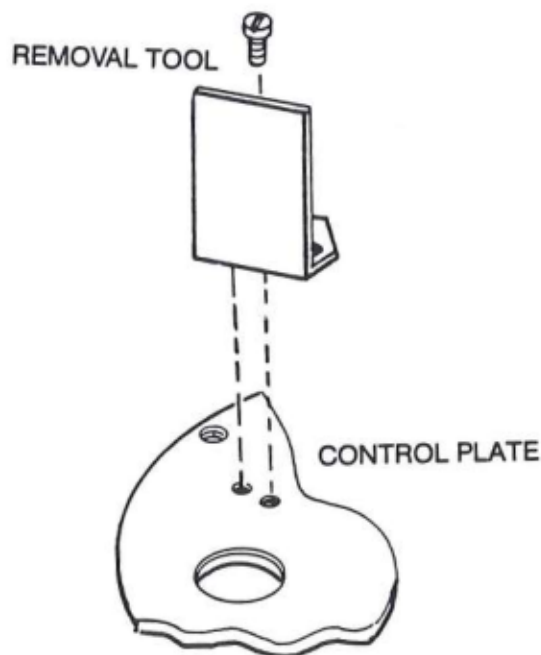

Figure 5-13 Control Plate Removal Tool
- 1). Invert the control plate (606).
- 2). Remove the two slotted head screws and two brass washers that hold the shaft seal bushing to the control plate (see Figure 5-13).